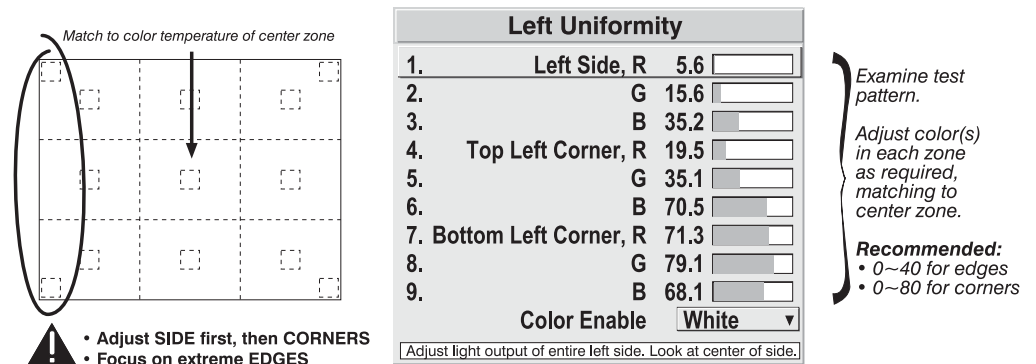

Figure 3.45. Match Zones to Center Color Temperature
- 2b) Return to the *Brightness Uniformity* menu. Beginning with the screen that exhibits the most obvious color shift(s), for each edge that exhibits a noticeably different color temperature from the center, select the corresponding *Uniformity* adjustment menu—*Left, Right, Top* or *Bottom*. For example, if any part of the left side is too blue, too red or too green, go to the *Left Uniformity* menu and adjust the colors (i.e., change their light output) until all portions of the left side closely match the center color temperature. Adjust an edge first (focusing on its center), then adjust its corners. See Figure 3.45.